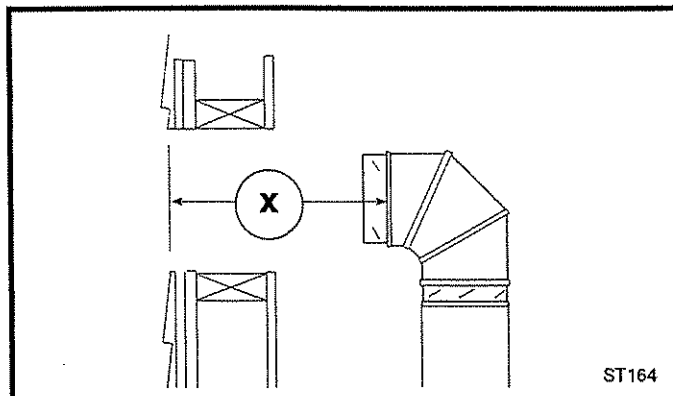

Fig. 33 Measure the horizontal length.
7. Measure, and cut if necessary, the appropriate length of pipe section necessary to make the connection through the wall. Include a 2" overlap; i.e. from the elbow to the outside wall face plus 2" (or the distance required if installing a second 90° elbow). (Fig. 33)